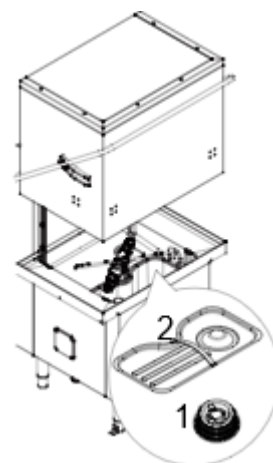

Figure 25 Filters and overflow
- In versions with supplementary filtering system (FS), remove the basket filter "1", the flat filter "2", the tank filter "3" and the pump suction filter "4" ("A" - Figure 25).
- In versions without supplementary filtering system (FS), remove the flat filter "1", the overflow "2" and the pump suction filter "3" ("B" - Figure 25).